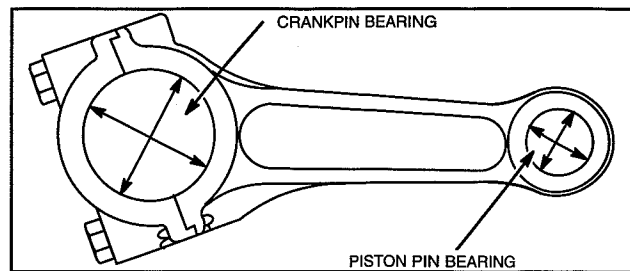

Fig. 7 – Check Rod Bearings
2. Check connecting rod bearings, Fig. 7. See reject sizes below.